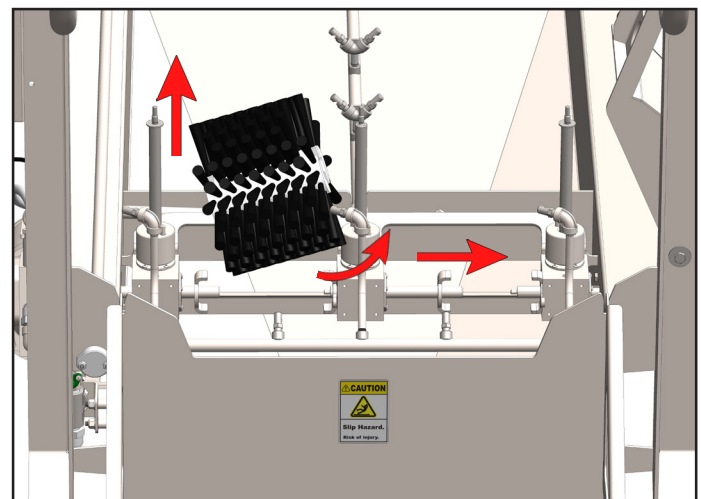

Fig. 11.3: Removing soles brushes (2 of 2)
5. With the first sole brush removed, the second brush's drive shaft anchor can be shifted to remove the final sole brush [Figure 11.3].